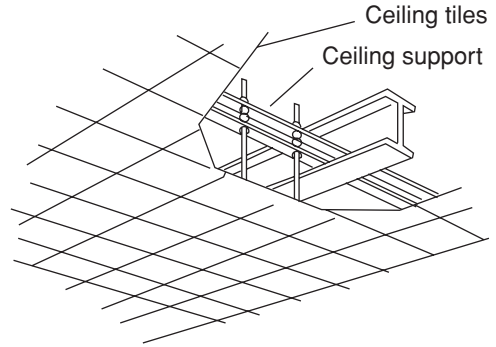

Fig. 3-100
- Use existing ceiling supports or construct a suitable support as shown in Fig. 3-100.